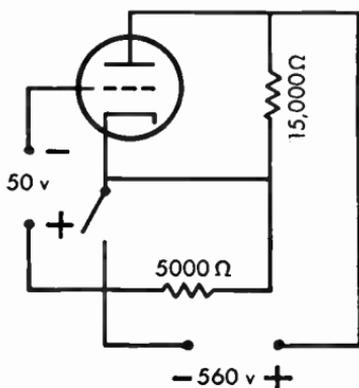

Fig. 7.01 Grid keying circuit.
7.01 The cutoff voltage of the tube used in the grid keying circuit of Figure 7.01 is  $-75$  volts. Show that no current will flow when the key is in the up-position.